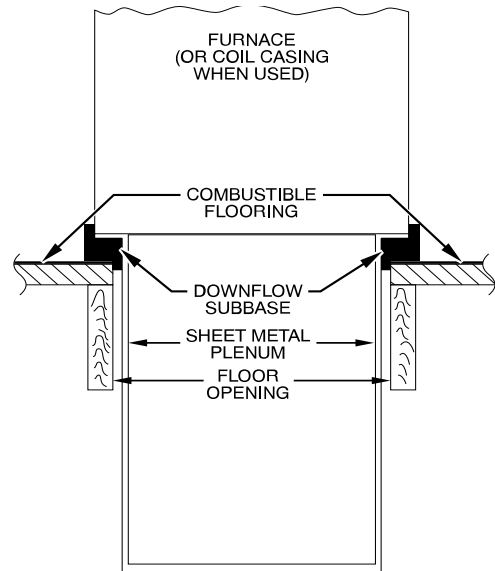
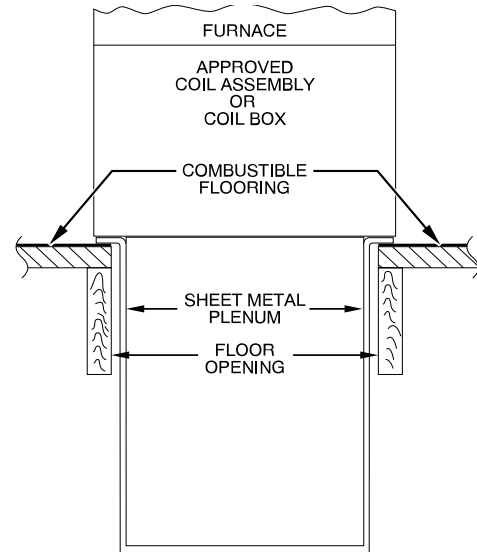

Fig. 12 – Furnace, Plenum, and Subbase Installed on a Combustible Floor
Fig. 13 – Furnace, Plenum, and Coil Assembly or Coil Box Installed on a Combustible Floor
4. If downflow subbase is used, install as shown in Fig. 12. If manufacturer’s cased evaporator coil or coil casing is used, install as shown in see Fig. 13.